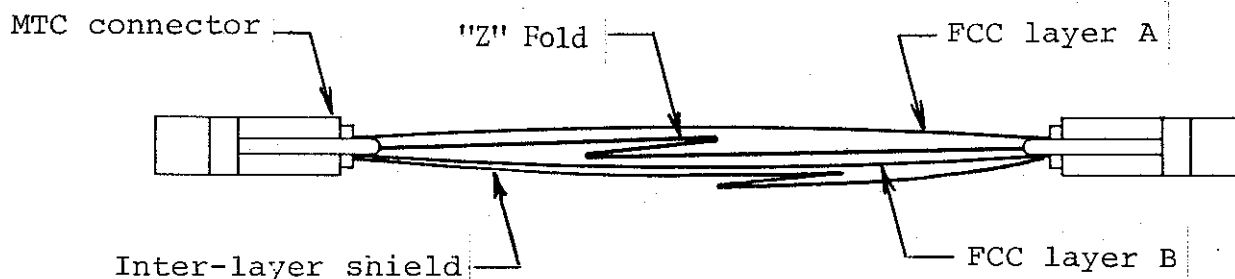

Figure 19. Inter-Layer Shields Folded to Match Length of FCC
7. Fold any inter-layer shields into "Z" folds as shown in Figure 19, so that their length matches the FCC length.